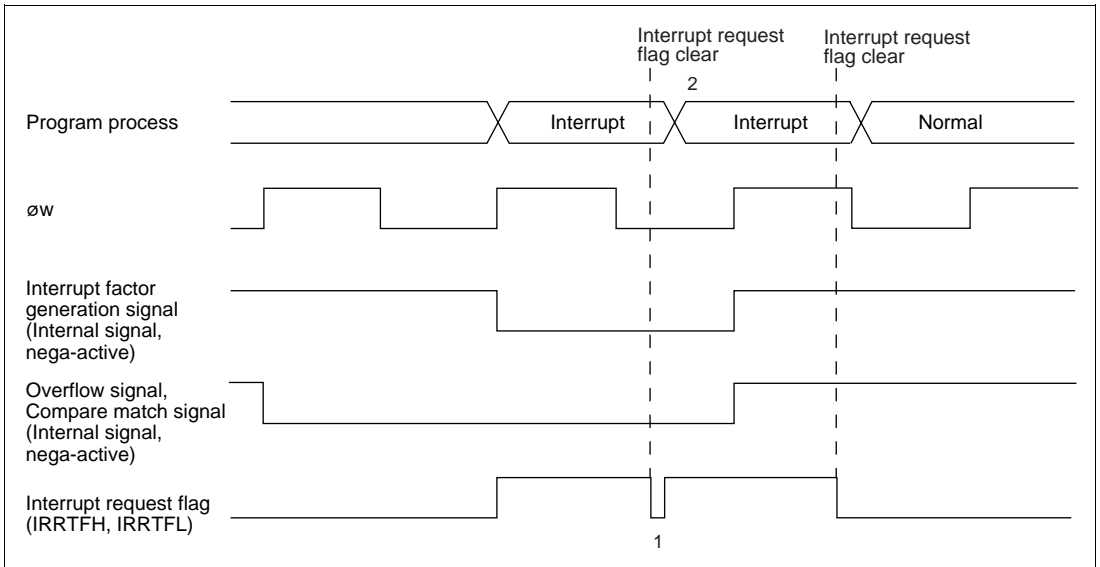

Figure 9-7 Clear Interrupt Request Flag when Interrupt Factor Generation Signal is Valid
When $\phi_w/4$ is selected as the internal clock, “Interrupt factor generation signal” will be operated with ϕ_w and the signal will be outputted with ϕ_w width. And, “Overflow signal” and “Compare match signal” are controlled with 2 cycles of ϕ_w signals. Those signals are outputted with 2 cycles width of ϕ_w (figure 9-7)
In active (high-speed, medium-speed) mode, even if you cleared interrupt request flag during the term of validity of “Interrupt factor generation signal”, same interrupt request flag is set. (figure 9-7 1) And, you cannot be cleared timer overflow flag and compare match flag during the term of validity of “Overflow signal” and “Compare match signal”.
For interrupt request flag is set right after interrupt request is cleared, interrupt process to one time timer FH, timer FL interrupt might be repeated. (figure 9-7 2) Therefore, to definitely clear interrupt request flag in active (high-speed, medium-speed) mode, clear should be processed after the time that calculated with below (1) formula. And, to definitely clear timer overflow flag and compare match flag, clear should be processed after read timer control status register F (TCSRFF) after the time that calculated with below (1) formula. For ST of (1) formula, please substitute the longest number of execution states in used instruction. (10 states of RTE instruction when MULXU, DIVXU instruction is not used, 14 states when MULXU, DIVXU instruction is used) In subactive mode, there are not limitation for interrupt request flag, timer overflow flag, and compare match flag clear.